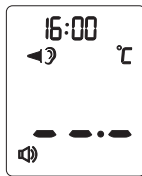

Figure 2
2. Press the **⏻ Button**, The display is activated to show all segments. After self-checking Figure 2 appears on the display screen with beeps, so you can start a new measurement. If error messages appears, it means the thermometer is not ready for measurement.
When the thermometer has been turned on and followed by Figure 2/4 or finished testing, press and hold the **Power Button** for three seconds. The letter MEM will appear at the bottom of the display. (See Figure 5)